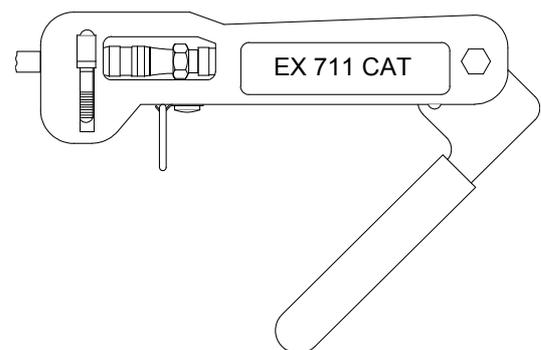

Figure 5
9. With the compression tool in the open position, place the connector and cable into the tool by covering the plunger tip with the inside of the connector nut, while ensuring the center conductor goes into the clearance hole of the plunger tip (Fig.5).